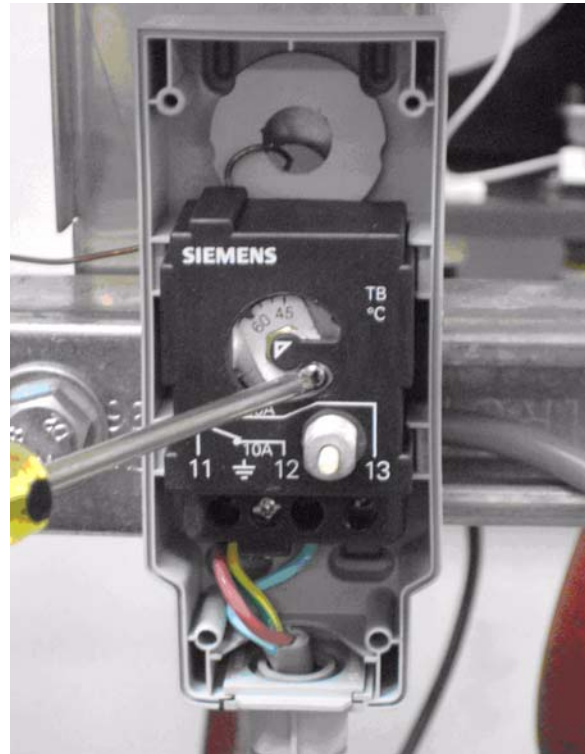

Figure 22 - Temperature adjustment plate screw
Step 3. Loosen the temperature adjustment plate screw. (Fig. 22).